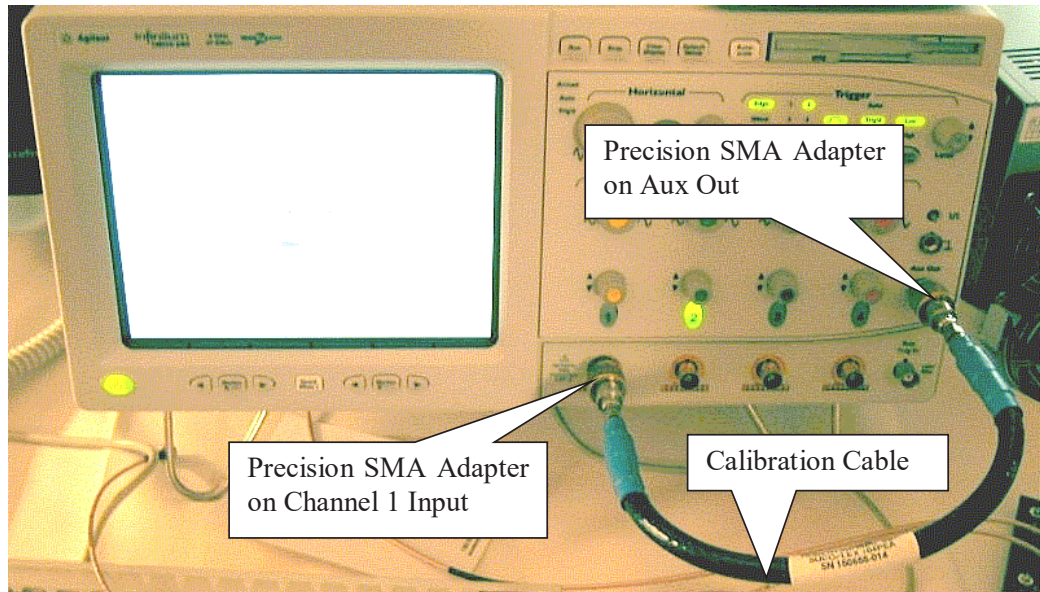

Figure 4 Calibration Cable Connection Example.
- c Then you will be prompted to connect the calibration cable with SMA adapters between the Aux Out and a specified input, as shown in the example in Figure 4 below. Install the SMA adapter by pressing it on input BNC, and hand tightening the outer ring turning right. Click the OK button after connecting the cable as prompted.